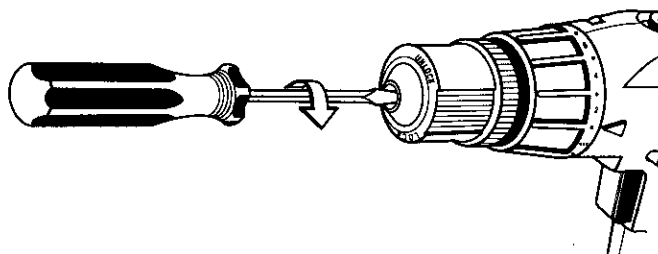

Fig. 15
- Open chuck jaws and remove wrench. Remove the chuck screw by turning it in a clockwise direction. See Figure 15. **Note:** The screw has left hand threads.